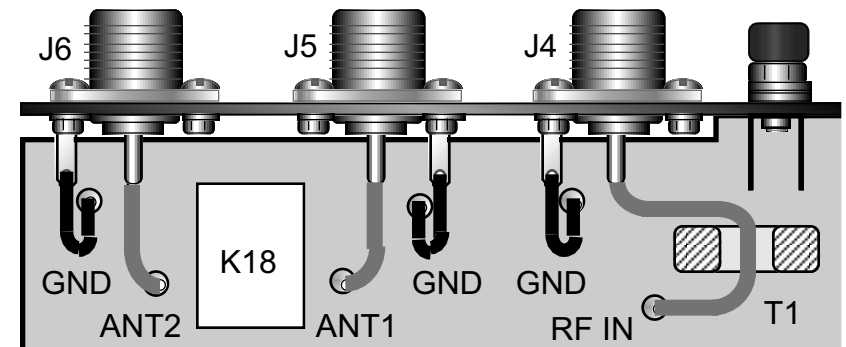

Figure 14
- Solder the three **black** wires to the lugs on J4-J6 (Figure 14).
- Solder one end of each of the three **black** wires to each of the GND pads. The black wires and the approximate locations of their associated GND pads can be seen in Figure 14.
- Solder one end of each of the three **black** wires to the three pads labeled "GND" at the back edge of the RF board. The black wires and the approximate locations of their GND pads can be seen in Figure 14 (page 21).
- Solder the three **black** wires to the solder lugs on J4-J6 as shown in Figure 14.